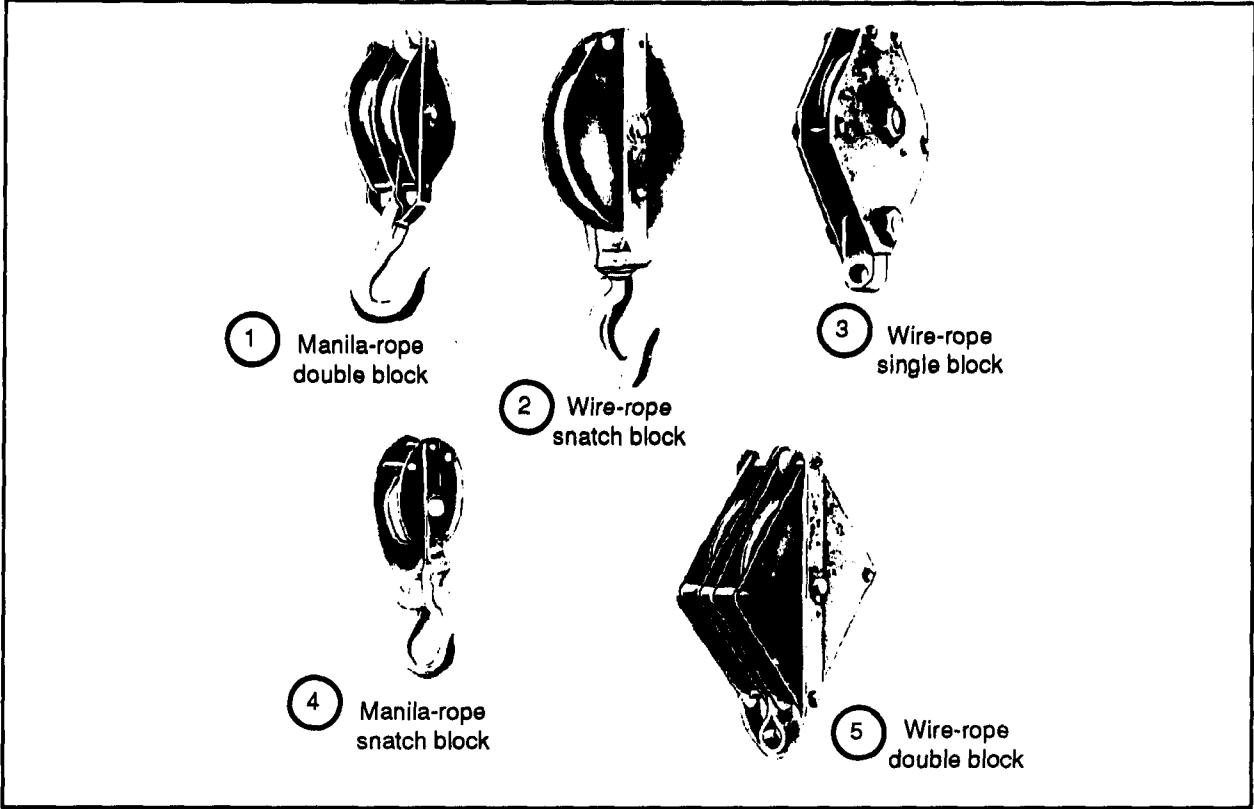

Figure 3-11. Types of blocks
- A particular shape or type of construction (see *Figure 3-11*).